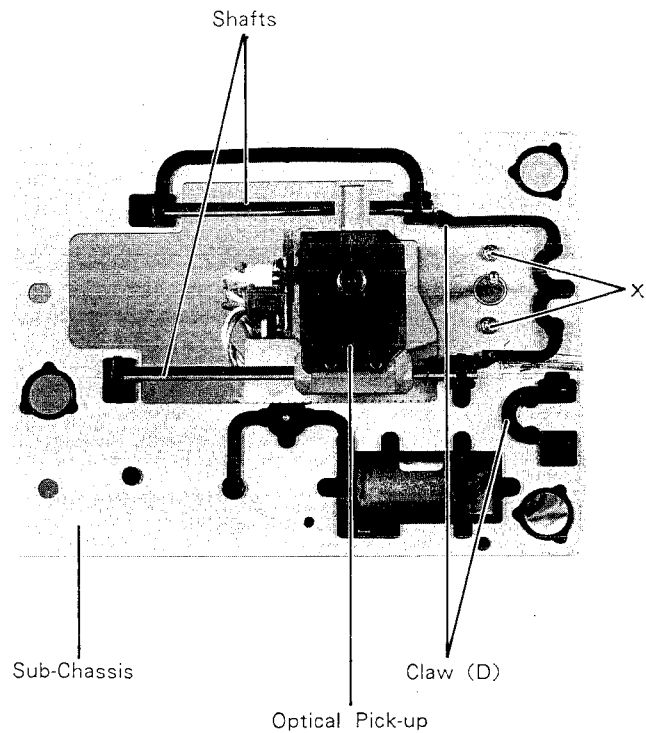

Figure 12
- (2) While pressing two claws (D) in toward pull out two shafts in the arrow direction as shown in Figure 12.
- (2) Remove two screws marked "×" as shown in Figure 12.